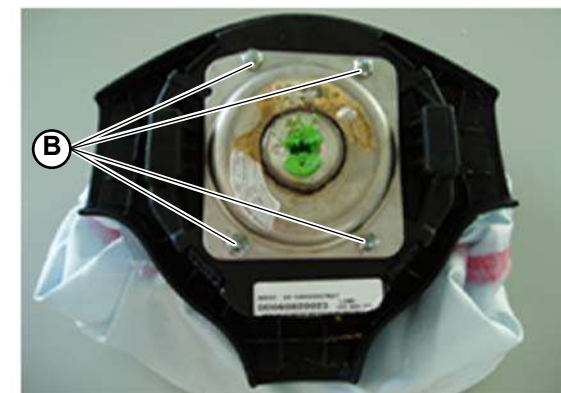

Fig.2
- Unscrew the four flange nuts with a torque wrench or ratchet. (B-Fig.2).